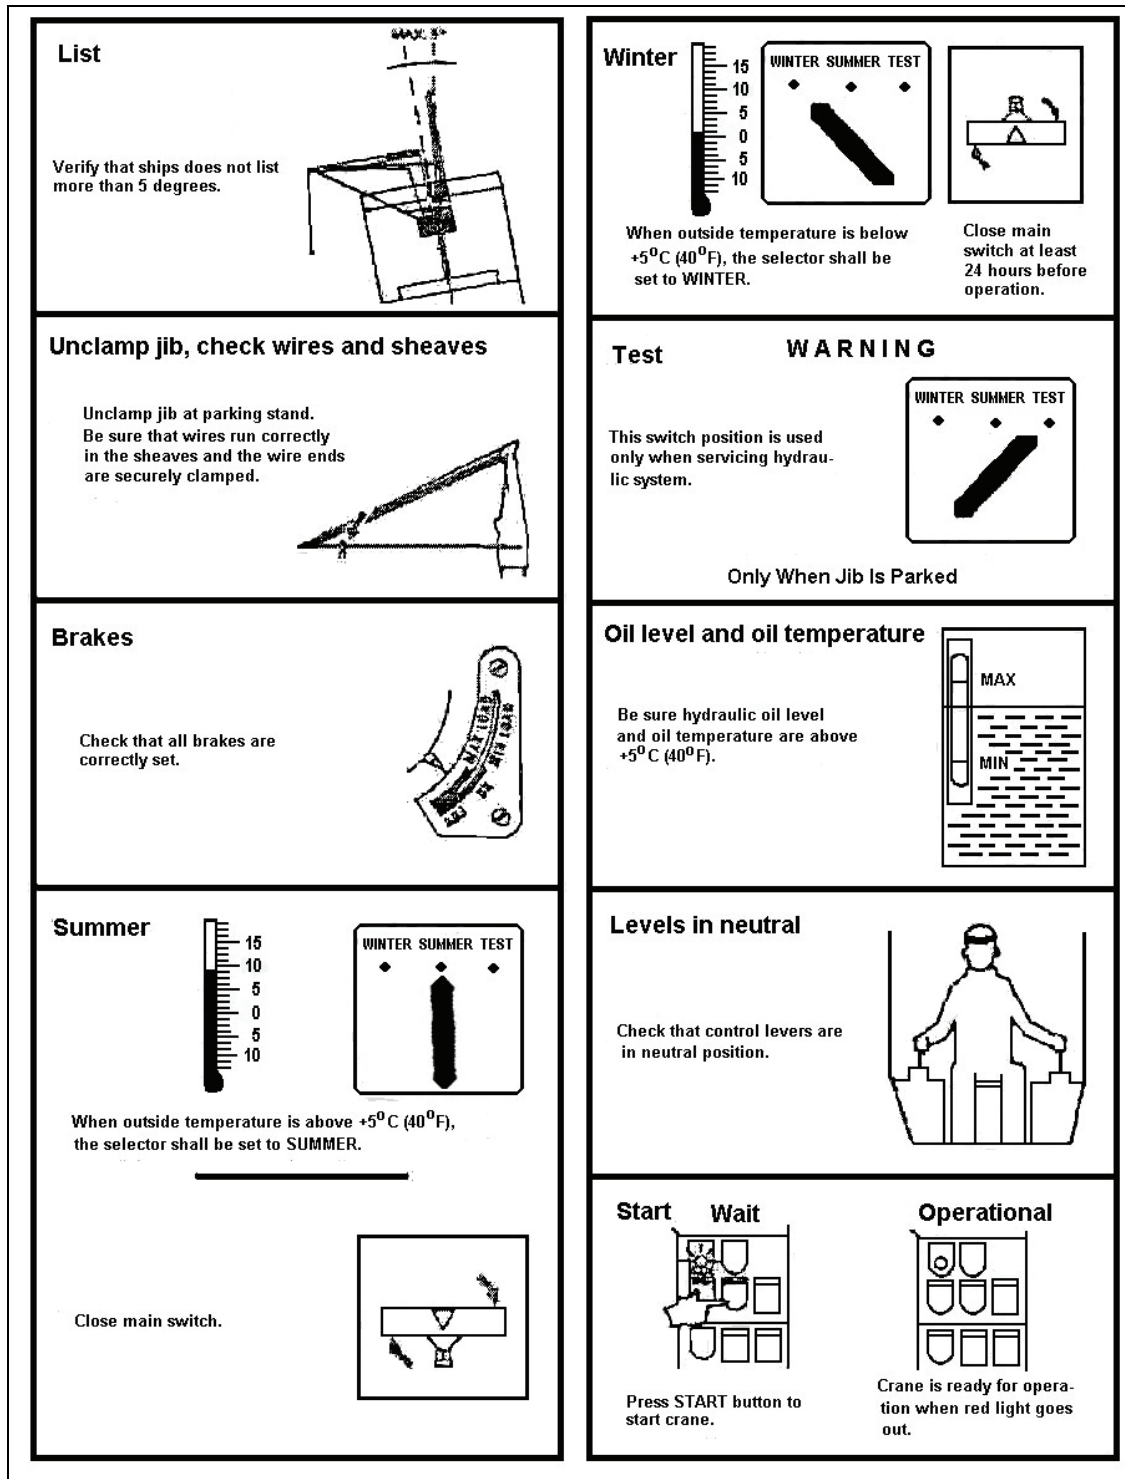

Figure 3-40. Hagglunds Crane Checklist
1. Perform pre-operational checks on the Haggglunds crane (see Figure 3-40).